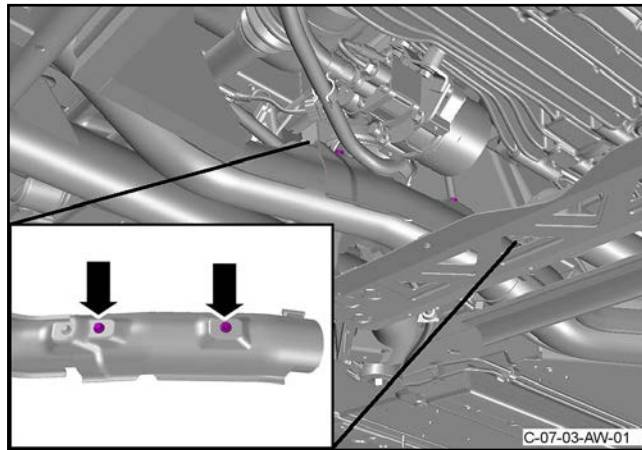

Figure 11
27. Install the two bolts that attach the front heat shield to the rear exhaust pipe (refer to Figure 11).